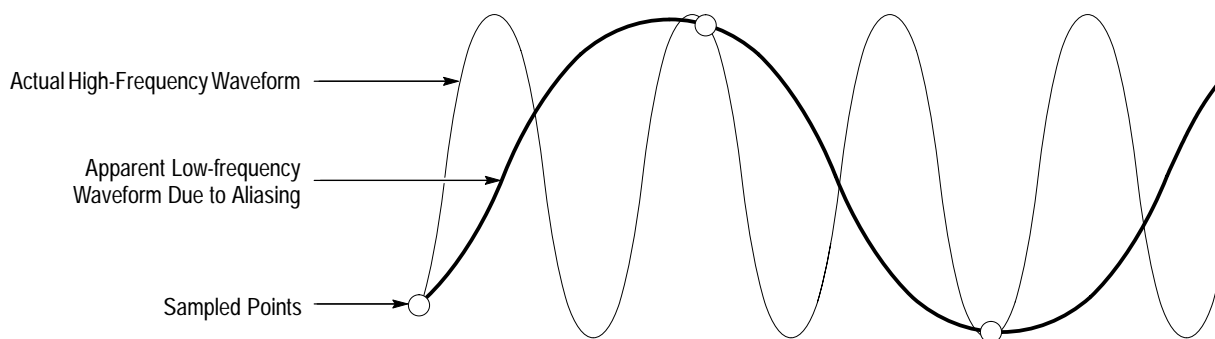

Figure 3–16: Aliasing
**About Aliasing.** When a waveform aliases, it appears on screen with a frequency lower than the actual waveform being input or it appears unstable even though the light next to **TRIG'D** is lighted. Aliasing occurs because the oscilloscope cannot sample the signal fast enough to construct an accurate waveform record. (See Figure 3–16.)